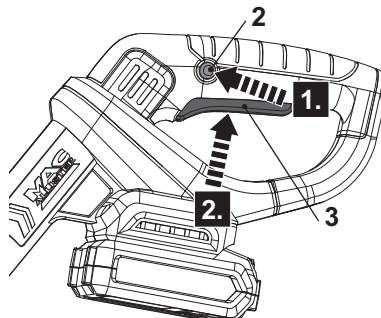

Fig. 16
1. Hold the product with one hand at the auxiliary handle (15) and with the other at the main handle (1).
2. Press the lock-off button (2) and hold it in position (Fig. 16, step 1).
3. Squeeze the on/off switch (3) to switch the product on (Fig. 16, step 2). Release the lock-off button afterwards.
4. Release the on/off switch (3) to switch the product off.